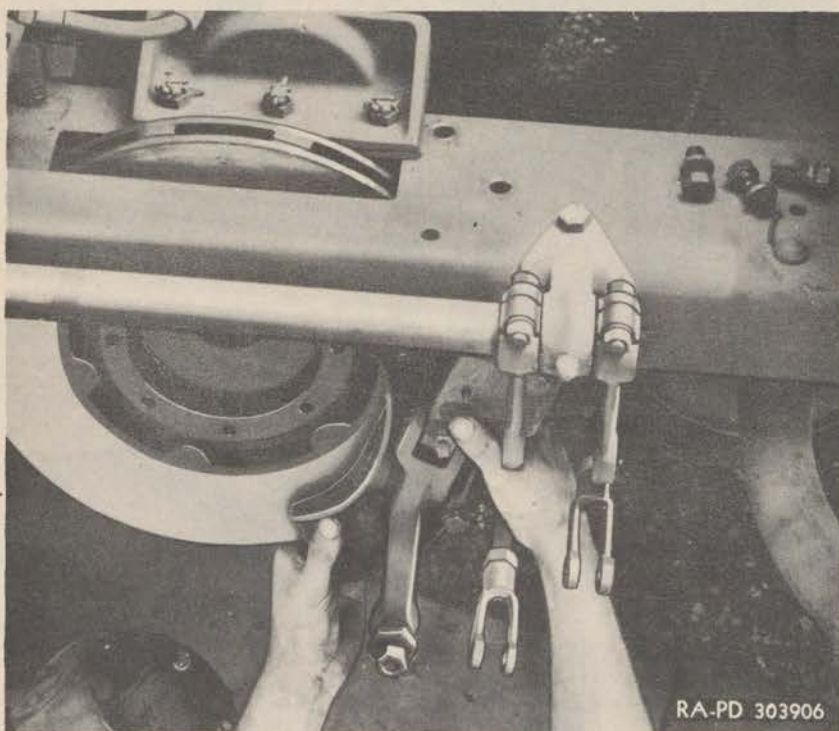

Figure 134—Removing Brake Shoe Assembly
(3) **REMOVE BRAKE SHOE ASSEMBLIES.** Remove the cap screws and lock washers holding the brake shoe assemblies to the frame cross member and remove these (fig. 134).